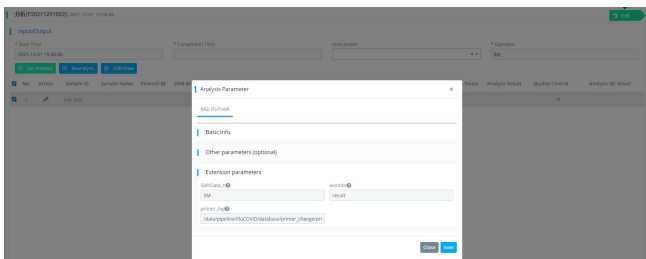

Figure 3-29 Analysis parameter interface
- 3) Click **[Save]** button on the analysis parameter interface to start analysis (Figure 3-29), and close the opened analysis details page (Figure 3-29).